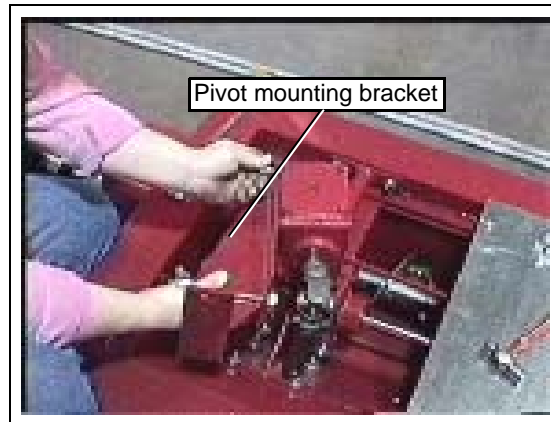
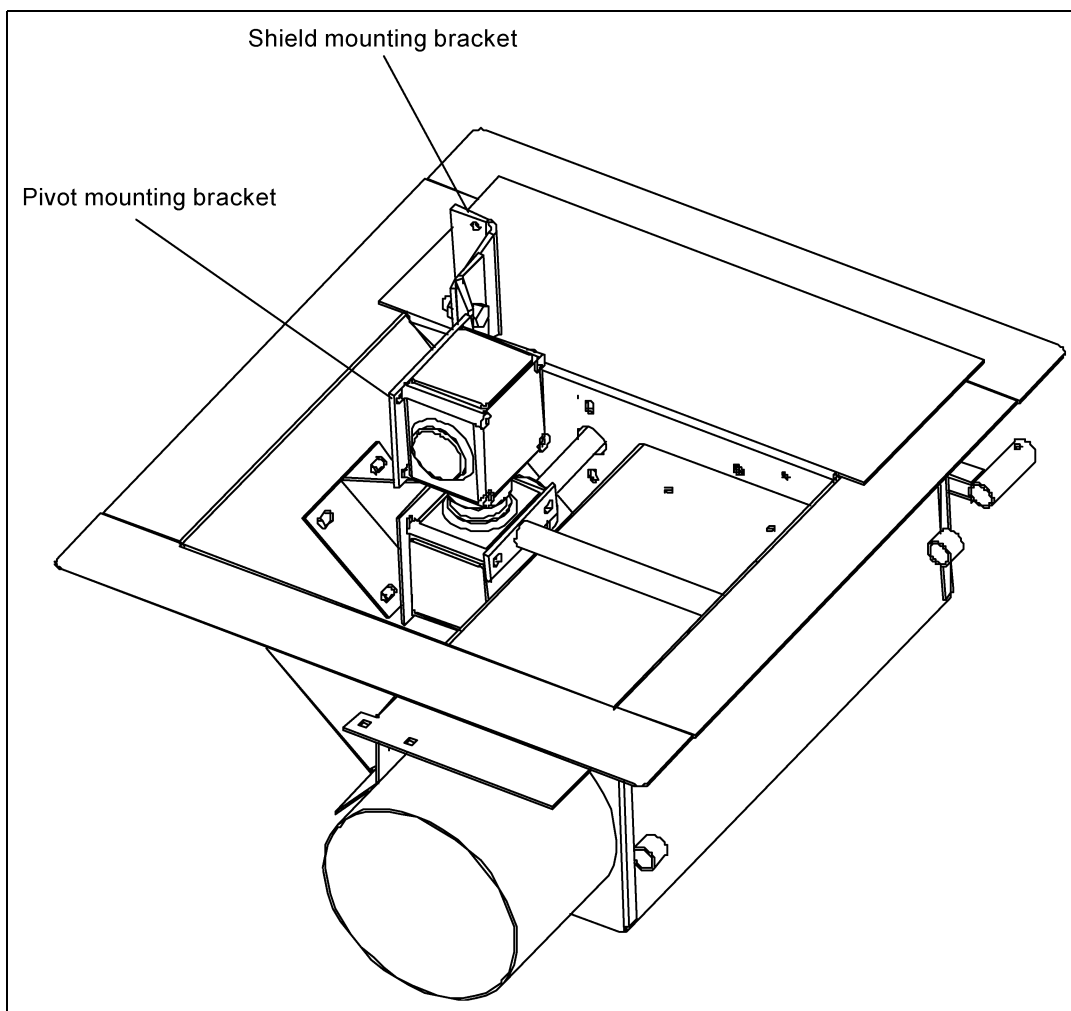

Figure 3X
Figure 3Y
1. Attach the pivot bracket to the left side of the gear box using four (4) $\frac{3}{8}$ " x 1" bolts, flat washers, and lock washers. (See Figure 3X and Figure 3Y.)
1. Install the first shield to the shield mounting bracket. Secure using two (2) 3/8" x 1-1/4" bolts, flat washers and nylon lock nuts. Make sure the nut is on the side of the slotted hole for adjustment. (*See Figure 3Y* and *See Figure 3AD.*)
2. Fasten the shield bracket to the pivot bracket on the gear box using one (1) 3/4" x 5-1/2" bolt, flat washer and lock nut.